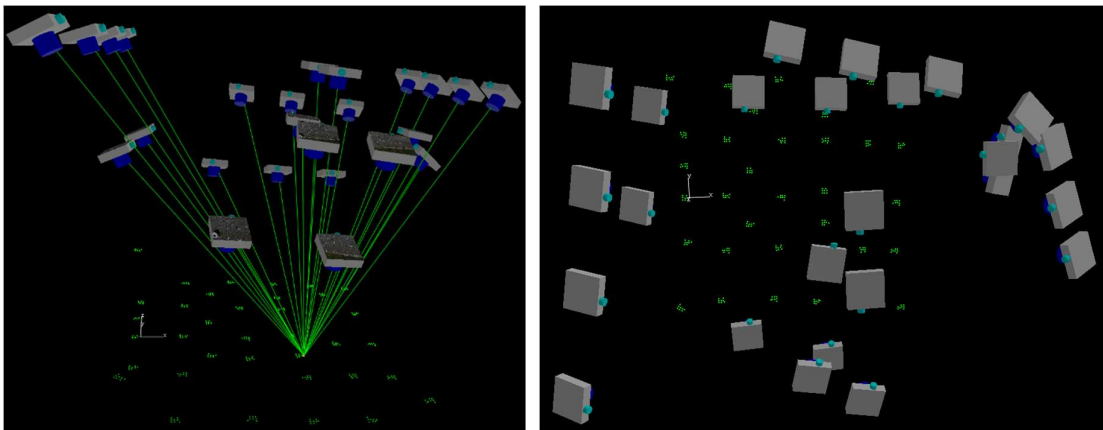

Figure 2
3) Camera Station Geometry: There is no set required network geometry, instead the imaging configuration needs to exhibit a number of features, noting that it must also meet the photographic quality requirements mentioned above. An example network, and one which will be used throughout this explanatory note, is shown in Figure 2.
- It is highly desirable to incorporate a mix of image scales (i.e. use of varied camera-to-object distances) within the photography. Note in Figure 2 how this is achieved through the use of three different height levels; substantial image scale variation is a very desirable attribute.
The 26-image, 288-point (36 codes) network shown in Figure 2 was recorded with the integrated camera of a DJI Mavic Air drone. This camera has an image resolution of 4056 x 3040 1.6 micrometre pixels and a nominal focal length of 4.8mm, these values being automatically read from the EXIF header of the jpeg images by *iWitnessPRO*. The heights above ground of the camera stations ranged from 2.2m to 3.9m (7 to 13ft) for the oblique/convergent images, to almost 4m for the three near-nadir, downward-looking images. At a setback distance of 4m, the imaging scale is 1: 830 (flying height divided by focal length), and at this scale the size of the 8mm diameter code dots in the images will be just under 10 micrometres, or 6 pixels. A target size in the images of greater than 3-4 pixels is required for accurate measurement.